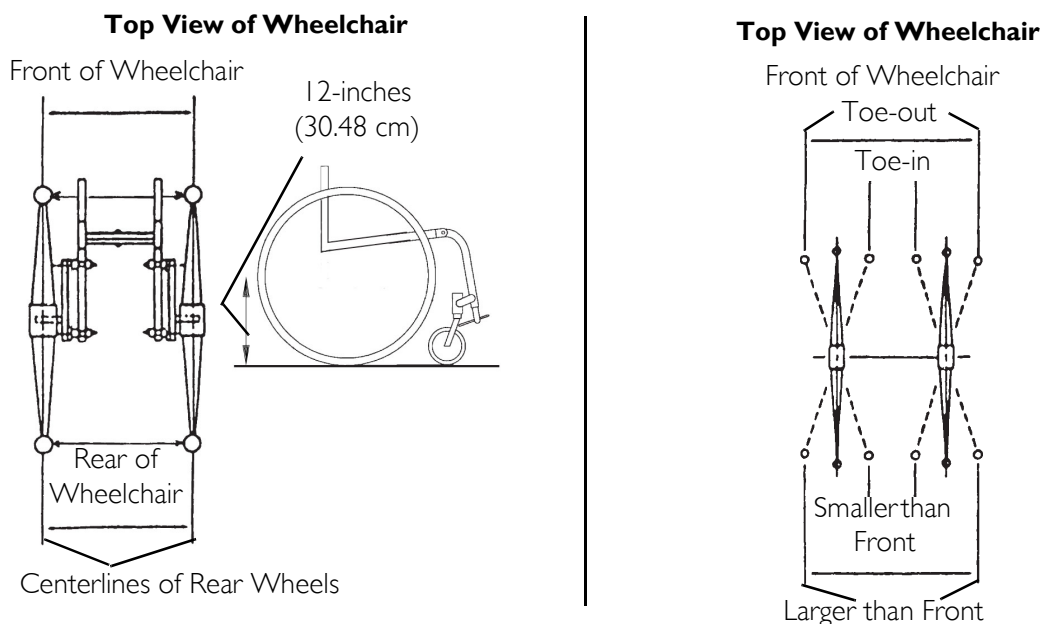

FIGURE 8.13 Adjusting Wheelbase Length (Adjusting Center of Gravity) - Measuring Centerlines of Rear Wheels
NOTE: For this procedure, refer to FIGURE 8.13.
2. Measure the distance between the centerlines at the rear and front of the rear wheels at approximately 12 inches (30.48 cm) from the ground/floor (FIGURE 8.13).
- If the back centerline measurement of the rear wheels is **SMALLER** than the front centerline measurement of the rear wheels, a **TOE-OUT** condition exists (FIGURE 8.13).
- If the back centerline measurement of the rear wheels is **LARGER** than the front centerline measurement of the rear wheels, a **TOE-IN** condition exists (FIGURE 8.13).